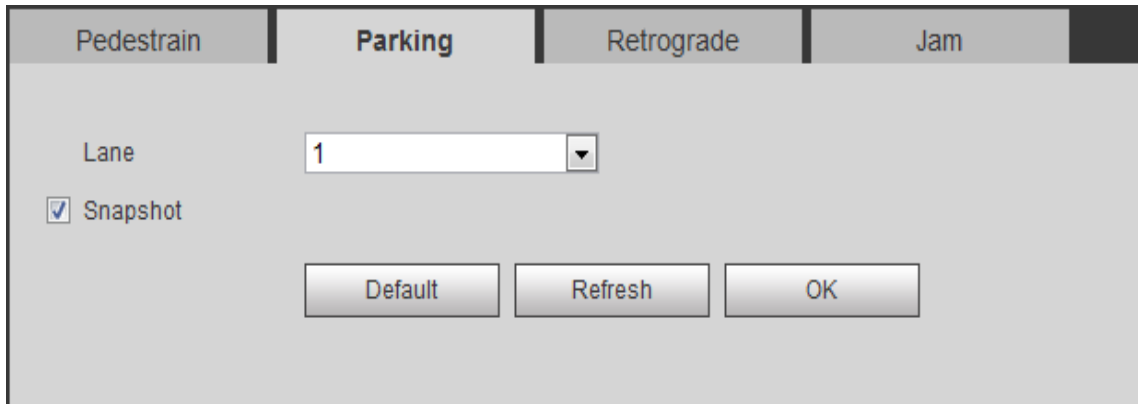

Figure 6-82
Step 1. Select Setting>Event>IVS Event>Parking, see Figure 6-82.